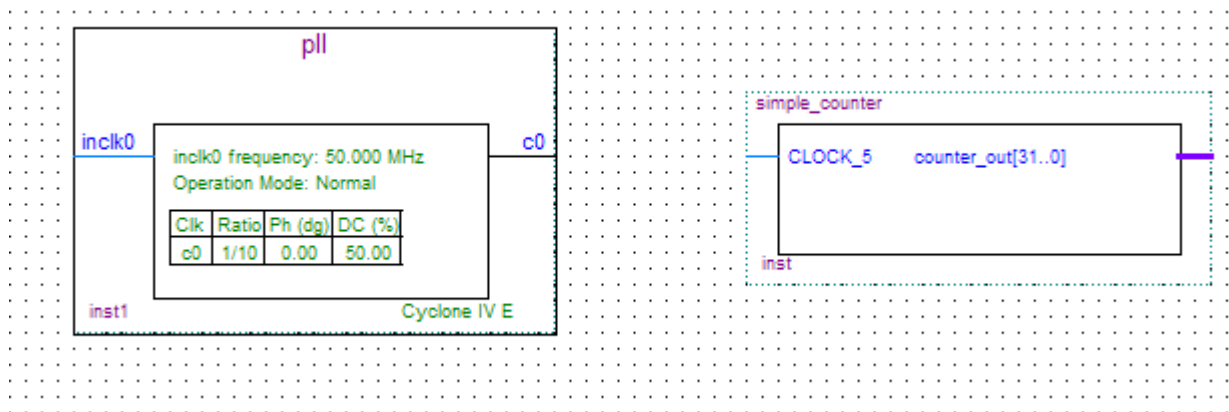

Figure 6-26 Place the PLL Symbol
11. Click **OK** and place the pll symbol onto the BDF to the left of the simple\_counter symbol. You can drag and drop the symbols, if you need to rearrange them. See **Figure 6-26**.